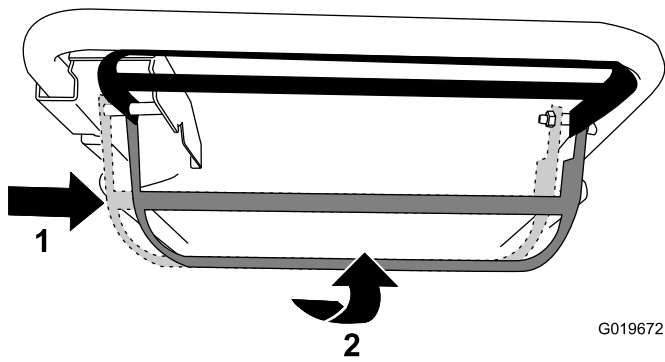

Figure 16
- To operate the self-propel drive and engage the blade: Move the blade-control bar all the way to the right and raise it to the handle (Figure 16).